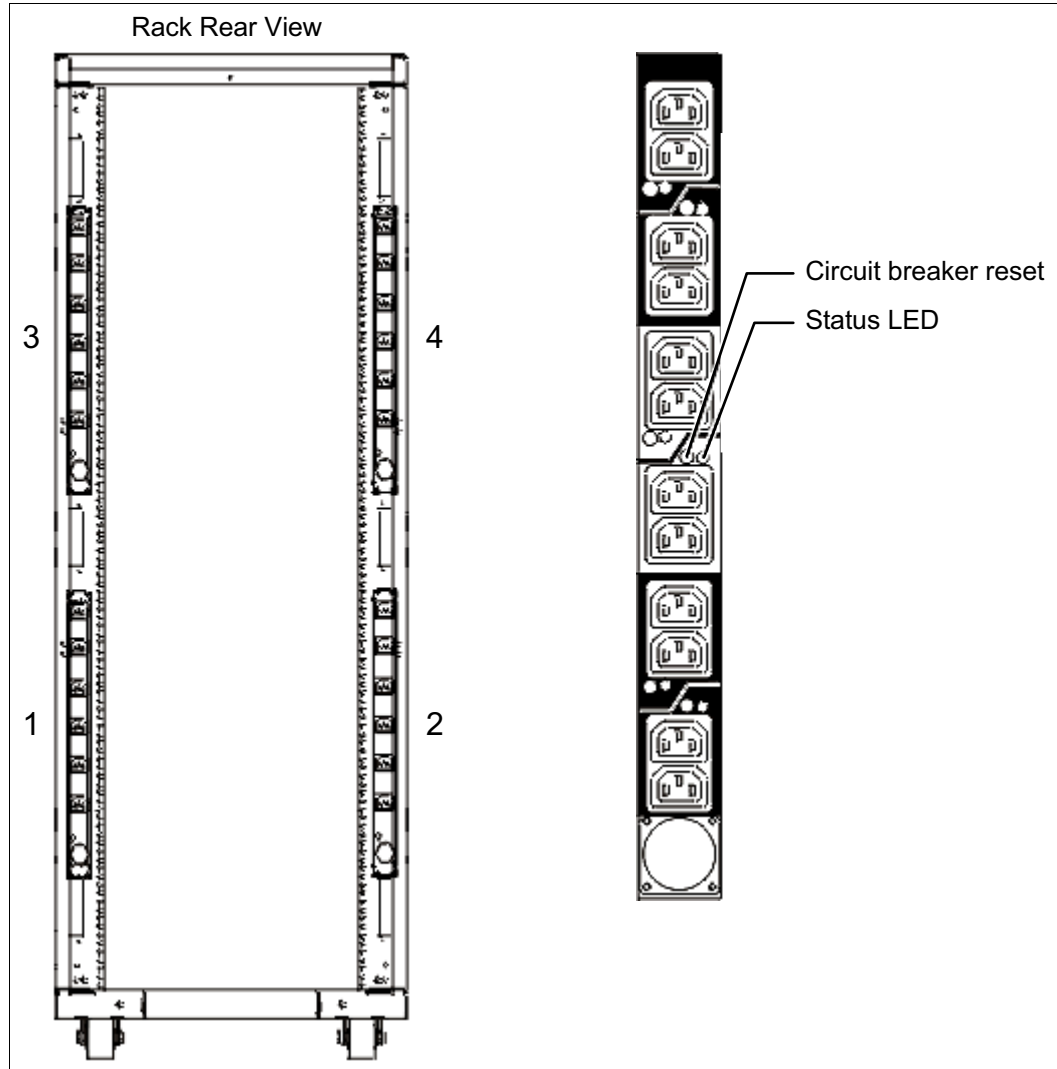

Figure A-1 PDU placement and PDU view
- ▶ Up to four power distribution units (PDUs) can be mounted in the PDU bays (see Figure A-1 on page 61), but others can fit inside the rack. For more information, see “The AC power distribution unit and rack content” on page 60.
Four PDUs can be mounted vertically in the back of the T00 rack. Figure A-1 shows the placement of the four vertically mounted PDUs. In the rear of the rack, two additional PDUs can be installed horizontally in the T00 rack. The four vertical mounting locations are filled first in the T00 rack. Mounting PDUs horizontally consumes 1U per PDU and reduces the space that is available for other racked components. When mounting PDUs horizontally, the preferred approach is to use fillers in the EIA units that are occupied by these PDUs to facilitate the correct airflow and ventilation in the rack.